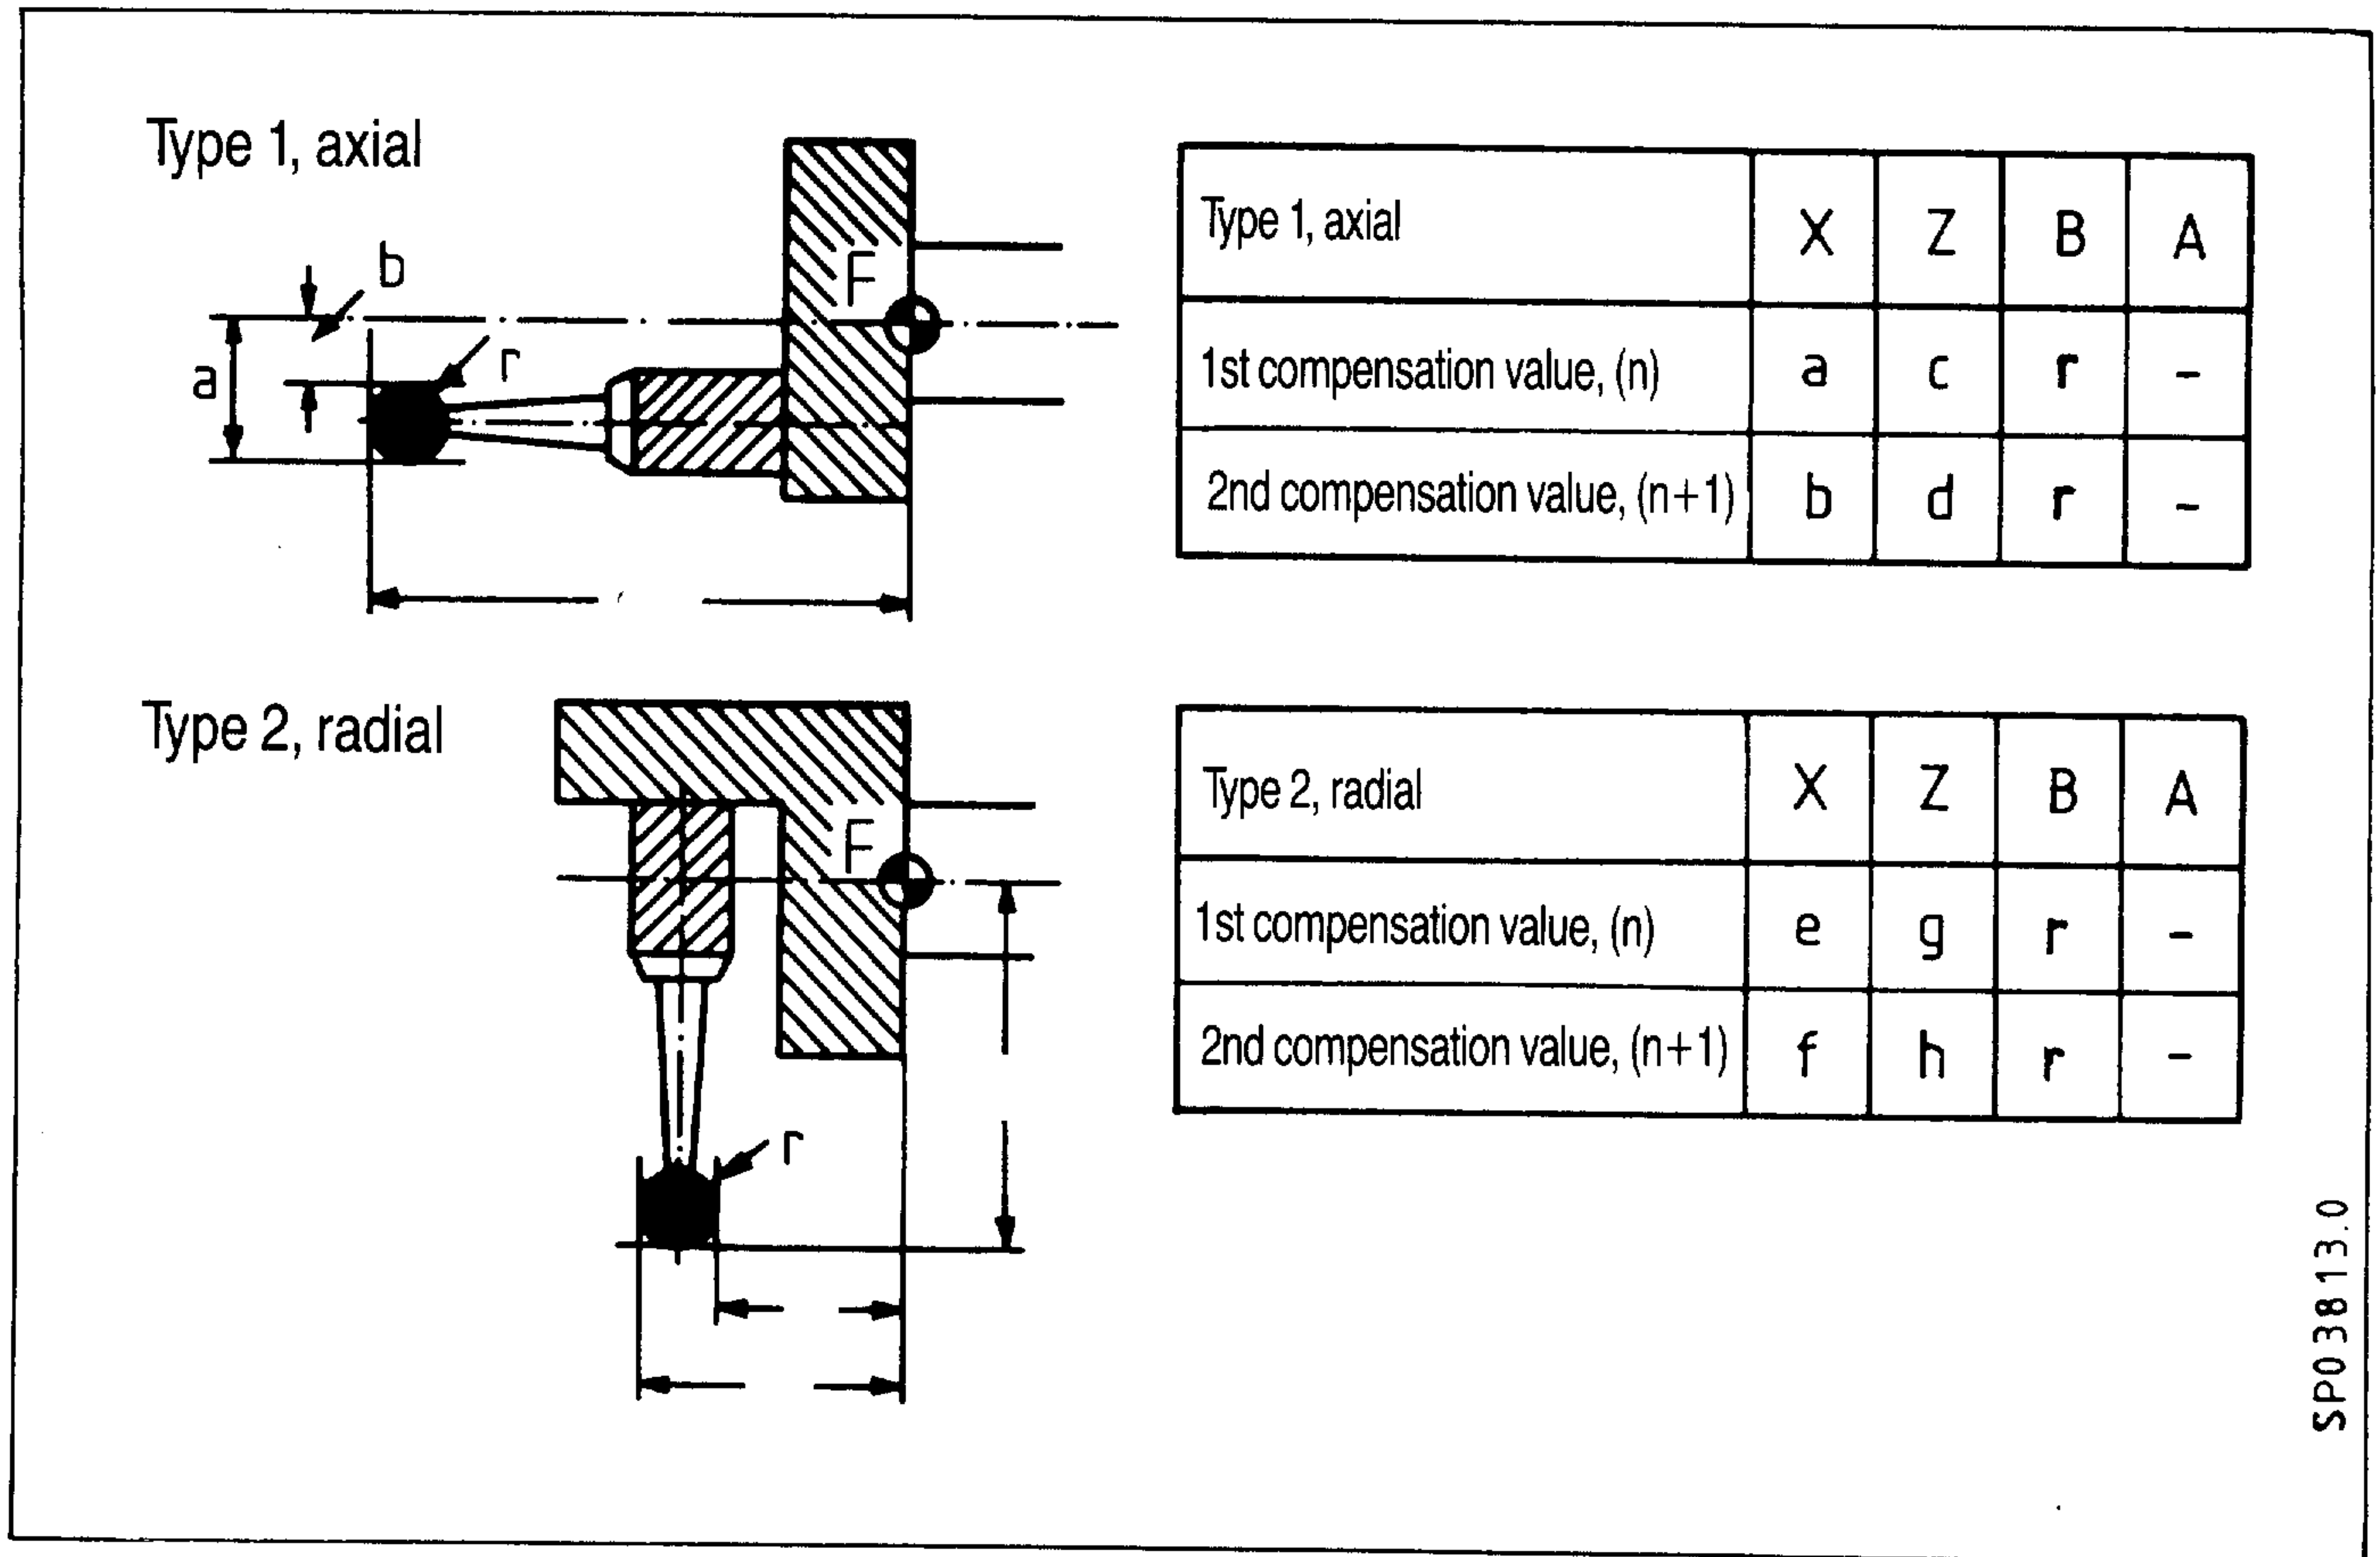

Fig. 18 Probe types; geometry data
Up to 4 pairs of calibration slots can be selected with the parameter R12 (Fig. 10). When R12 is specified, the valid reference slot dimensions, specified in the background memory, are selected. The specification in the R12 parameter refers to n-1, e.g. calibration slot 1 ==> R12 0 . There are 2 basic types of probe (see Fig. 18). The cycle automatically positions the selected probe into the associated calibration slot (see Fig. 20); this is performed paraxially with linear interpolation along the shortest path. Calibration is performed on only one surface at any one time (axial direction) in the slot.
- The probe is called with the 1st compensation number (see Fig. 18) and positioned without G53 (with offset) opposite the calibration surface.